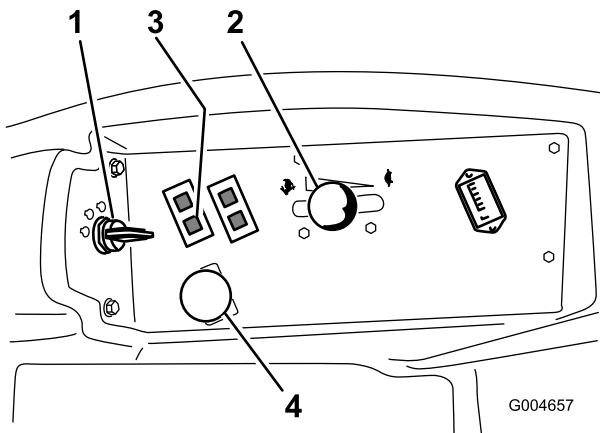

Figure 18
4. Move the PTO (power take off) switch to the off position (Figure 18).
5. Move the throttle lever midway between the Fast and Slow positions (Figure 18).